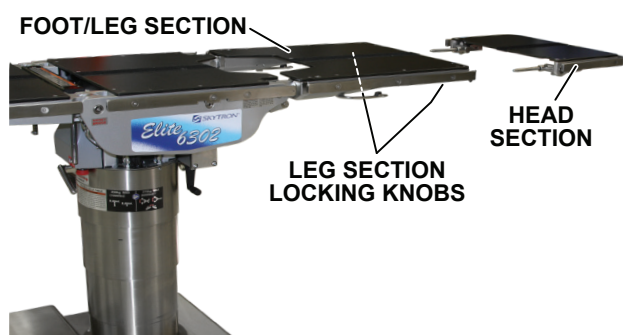

Figure 3-24. Head Section as Foot Extension
Two (2) locking knobs are located on the inside of the leg section for securing the head section (Figure 3-24).